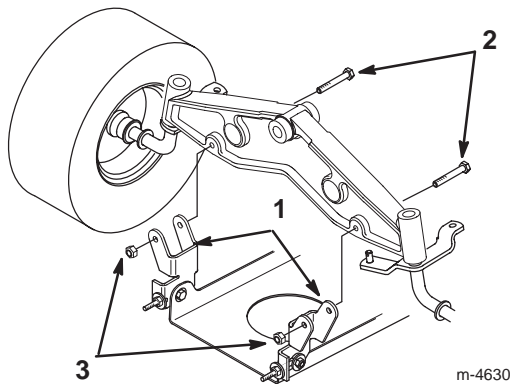

Figure 40
10. Install the mower pivot mount brackets to the front axle with bolts and locknuts (Fig. 40).